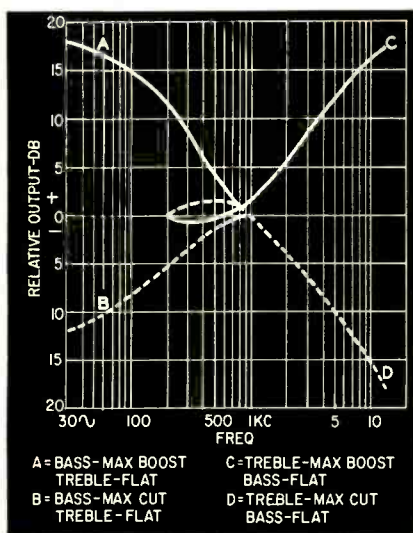

Fig. 5—Effect of various tone-control settings.
**Tone control:** The treble and bass control characteristics of the preamplifier are shown in Fig. 5. It is evident that an adequate amount of control is provided for almost any application.